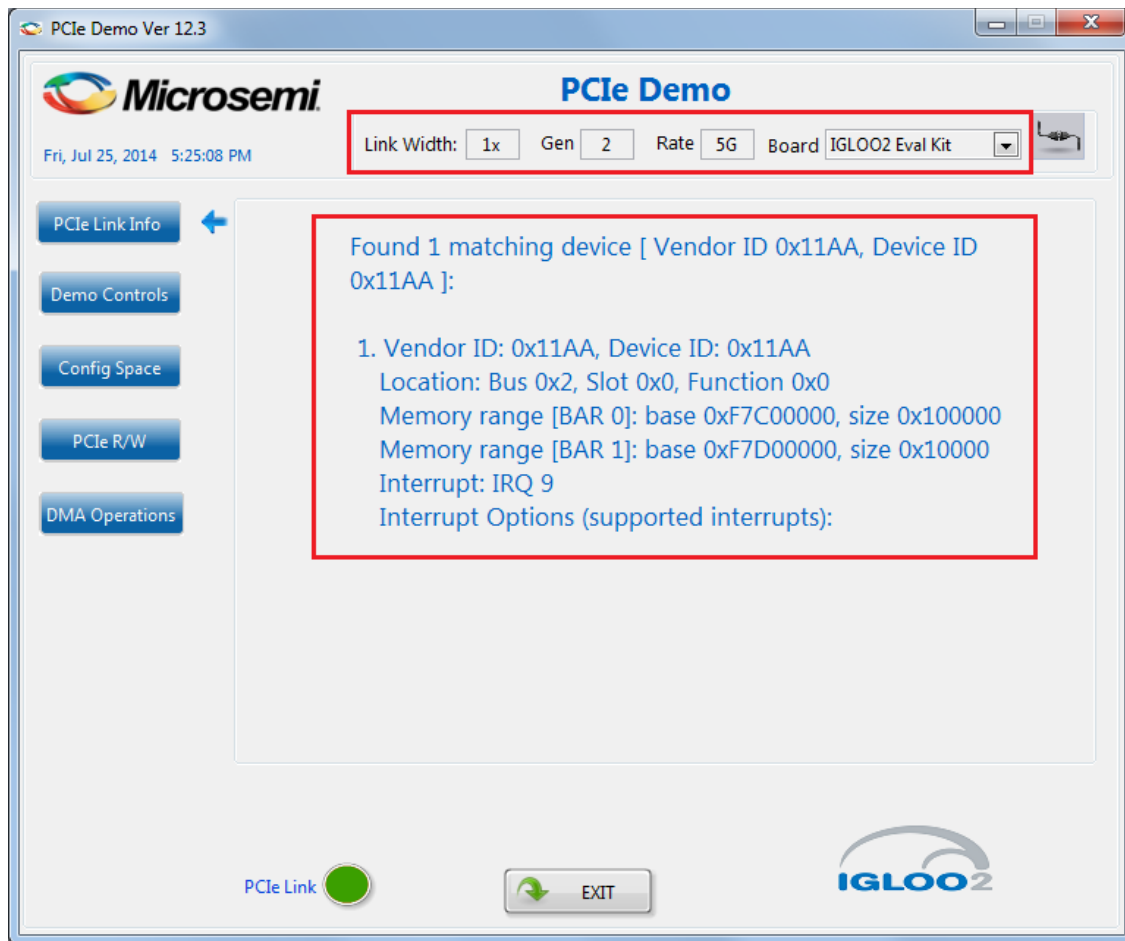

Figure 19 • PCIe Device Information
- Click the **Connect** icon at the top right corner of the PCIe_Demo application. The application detects and displays the connected Kit, demo design, and PCIe link. Figure 19 shows the example messages after the connection is established.